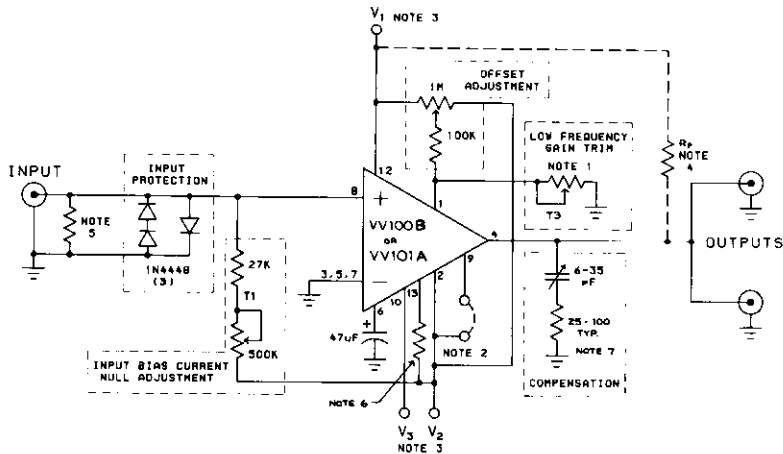

Figure 1
- See figure 1.
Figure 1 shows a typical application circuit for the VV100B and is the circuit on the LeCroy VV100BTB amplifier. Here input trim T1 is accomplished by the series combination of a 27 k Ω resistor and a 500 k Ω potentiometer. Trim T2 is set by the 1 M Ω potentiometer and series 100 k Ω fixed resistor. A fixed resistor to ground sets the low frequency gain trim (T3). High frequency compensation is set by the 51 Ω , 6-35 pF combination.
Proper termination and protection must be supplied to the input. In most cases, input to the amplifier will be via 50 Ω cable. In this case, a 50 Ω resistor from the input (pin 8) to ground should be employed. In addition, three 1N4448 or equivalent diodes to ground as shown in figure 1 will provide overload protection. The input dc level must be trimmed to zero by a trim resistor (T1) to a negative supply. Where the best dc stability is required, this supply should be regulated. Note that fluctuations in the input offset will appear at the output amplified 10-fold.
A current of about 30 mA from +6 V must be supplied at pin 12. In addition, two negative supplies, V_2 and V_3 , are recommended. V_2 (pin 2) requirement is 20 mA at a voltage between -6 and -12. V_3 (pin 10) is to be set 12 V more negative than V_2 . For example, with V_2 set to -12 V, V_3 should be -24 V. The VV101A and VV100B each require about 8 mA from the V_3 supply. Proper bypass requires at least 6.8 μ F tantalum capacitors to ground from pins 2, 12, (and 10 if three voltages are used) and 47 μ F on pin 6. Minimum length leads should be employed. Be sure to observe proper polarity. See figure 1. Either VV100B or the VV101A can be operated with only two proper power supplies at the expense of rise time and linearity. For this configuration, tie pin 2 to pin 9, set $V_2 = -6$ V to -12 V, V_3 is omitted and $V_1 = +6$ V.
The LeCroy Model VV100BTB/VV101ATB provides the high-bandwidth circuitry, shown in Figure 1, in a ready-to-use format. The 3 inch \times 3 inch \times 1.6 inch enclosure size of this device allows one to use the Model VV100B or VV101A in locations too small for many fast amplifiers. The amplifiers employ LEMO type coaxial cable connectors. The units may be purchased with a Model VV100B or VV101A. The trim and compensation variables are factory adjusted for optimum high-speed performance.